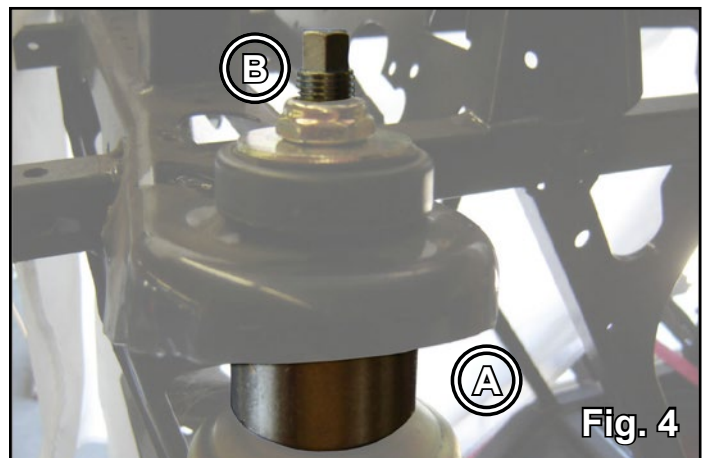

Fig. 4
7. Remove round plastic Bearing from top of strut and screw on Adapter (A). Tighten. See Fig. 4.
8. Place round plastic Bearing back on top of Adapter (A) and place Strut assembly into Frame. Install Adapter Screw (B). Tighten. See Fig. 4.